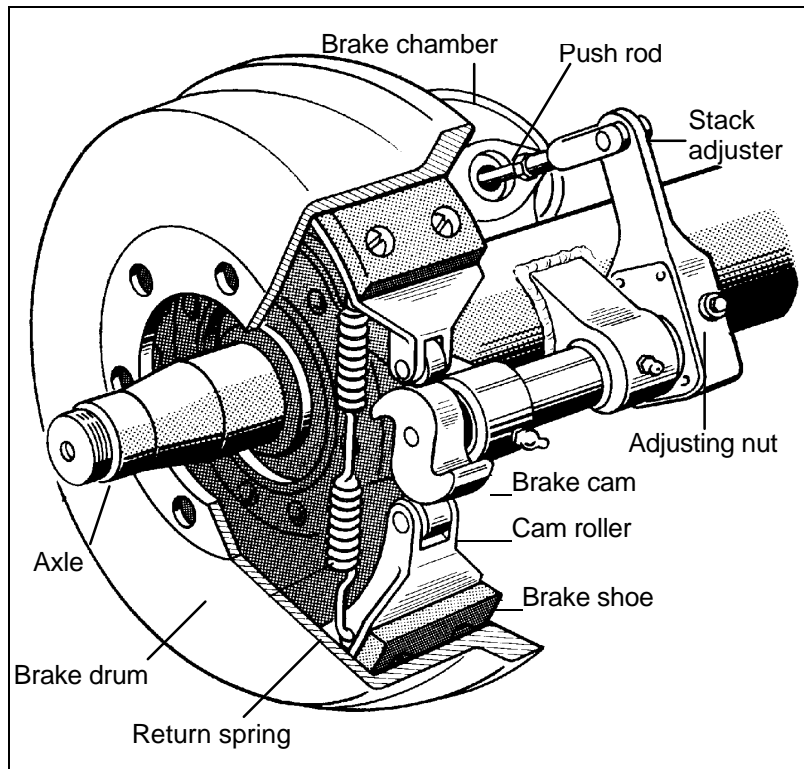

Figure 5-2
Foundation brakes are used at each wheel. The most common type is the s-cam drum brake, shown in Figure 5-2. The parts of the brake are discussed below:
**S-cam Brakes.** When you push the brake pedal, air is let into each brake chamber (see Figure 5-2). Air pressure pushes the rod out, moving the slack adjuster, thus twisting the brake cam shaft. This turns the s-cam (so called because it is shaped like the letter "S"). The s-cam forces the brake shoes away from one another and presses them against the inside of the brake drum. When you release the brake pedal, the s-cam rotates back and a spring pulls the brake shoes away from the drum, letting the wheels roll freely again.